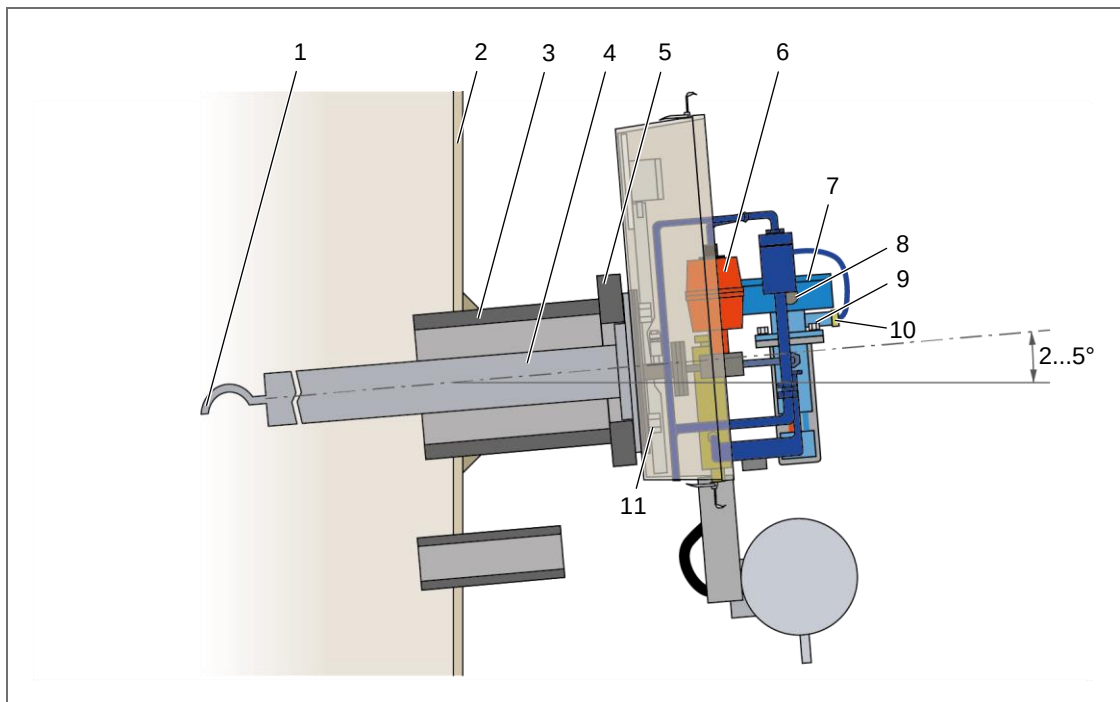

Fig. 19: Installation of probe at the duct (side view, example with separate return)
1. Open the casing of the probe. For this, release the four casing locks and take the casing cap off (see Fig. 19).
2. Check the alignment of the sampling bow (1). If necessary, turn the sampling bow until the opening is aligned towards the flow direction.
3. Furnish the adapter (5, Fig. 19, page 35) with a gasket.
4. Hoist the probe to the measuring point and lead the probe tube (4) through the welding flange (3) into the duct, until the probe abuts at the adapter (5).
5. Fix the device by furnishing fixing nuts (11) at the four thread bolts of the welding flange inside the probe. Tighten the fixing nuts with the aid of a screw driver.
6. Mount the optical sensor (7):
- b) Connect the electrical connection (8) of the optical sensor as well as the connection of the optical purging air (10).
- c) Screw the fixing nuts (9) at the support of the optical sensor and tighten them.
7. Set the 3/2-way ball valve (6) to manual and purging operation.